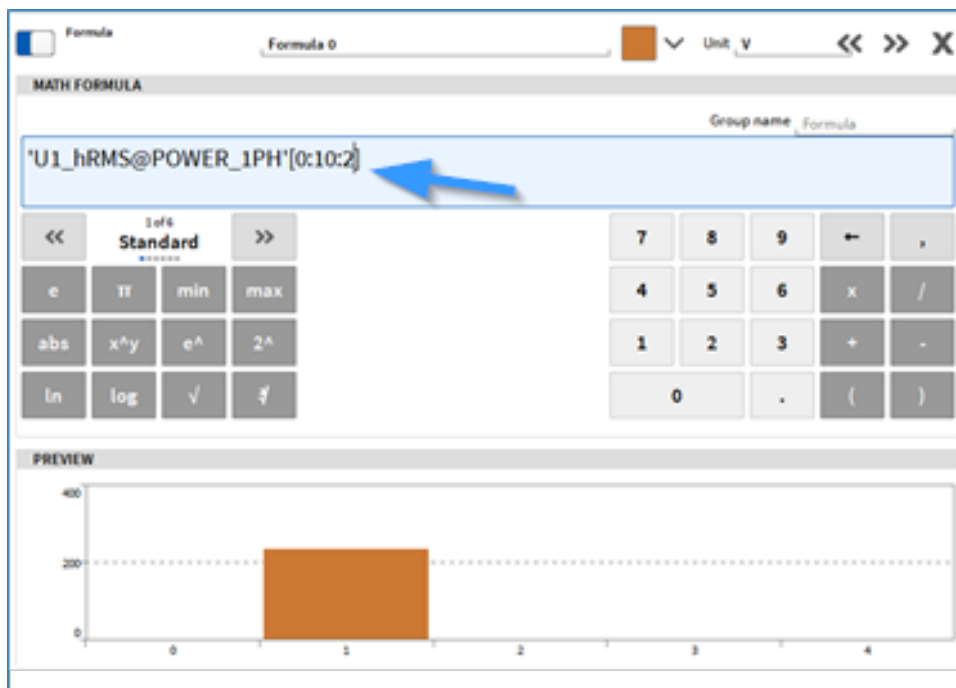

Fig. 7.80: Extraction of several adjacent elements with step size between the elements to be extracted
- Extraction of several adjacent elements with a step size between the elements to be extracted (see Fig. 7.80). The output will be an array channel with the number of extracted element as new dimension.